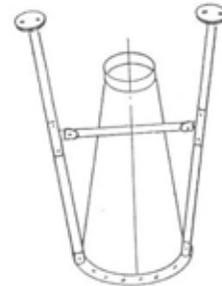

FIG. 3
3. Connect the supporting leg with stiffener by using 6 hex head screws $5/16'' \times 1/2''$ and nuts. (Fig 3)